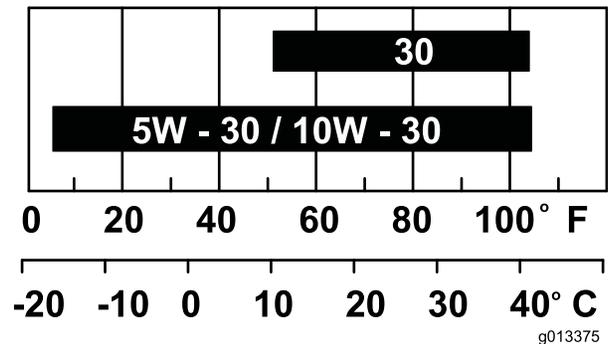

Figure 15
**Viscosity:** See the table below (Figure 15).